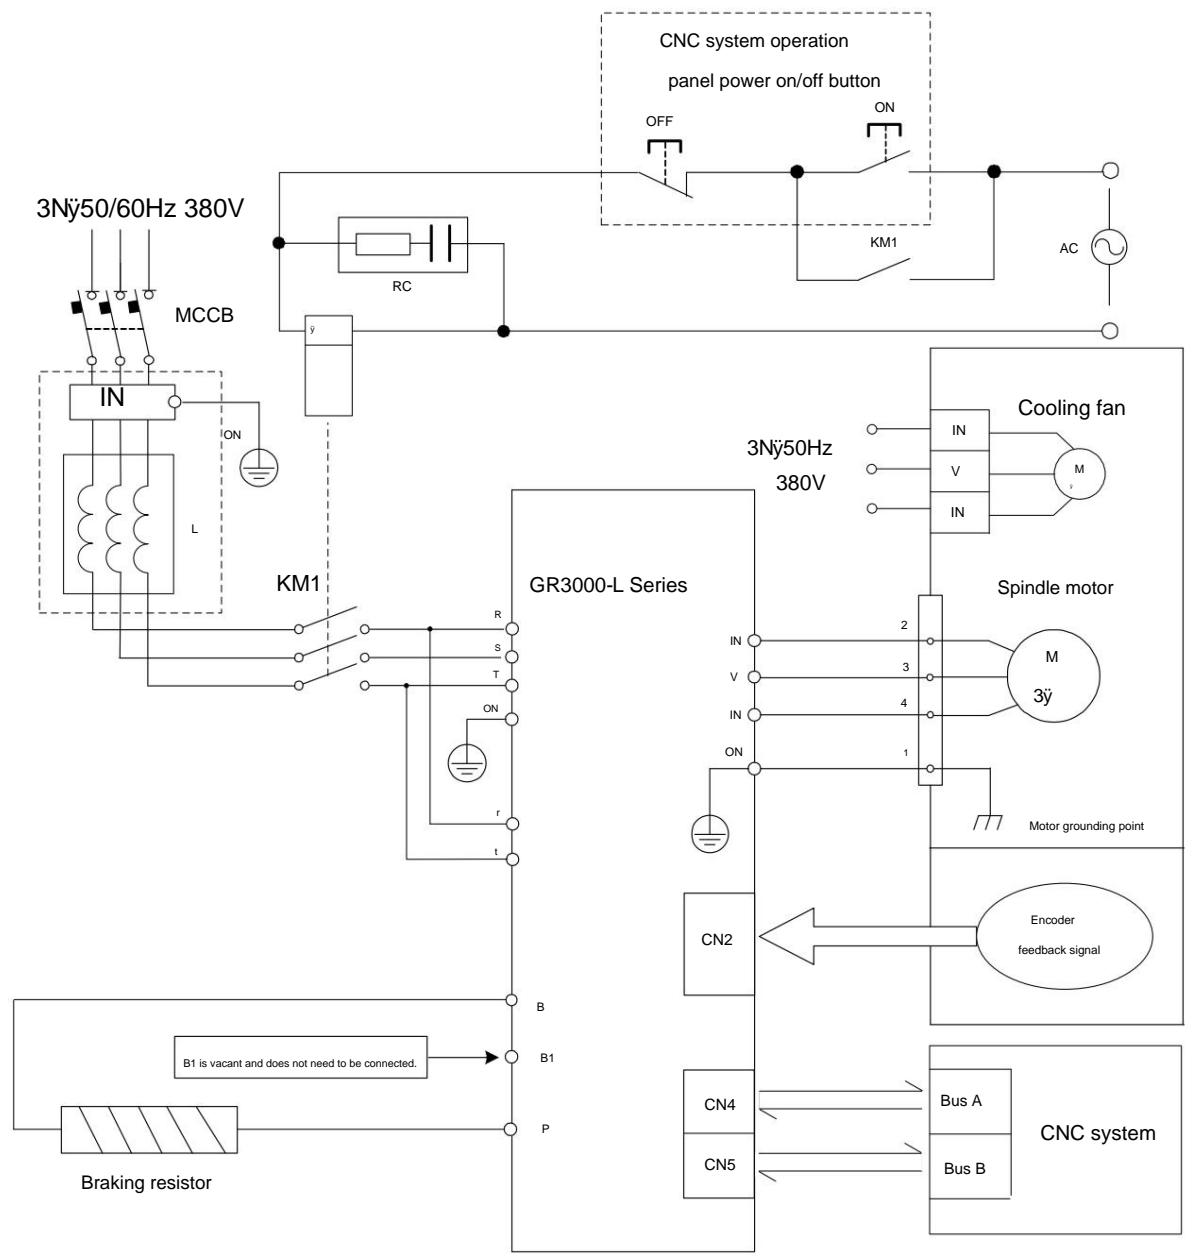

Figure 3-9 Main circuit wiring diagram of AC asynchronous spindle servo motor for GR3000-L series products
- If the user refers to Figure 3-9 for wiring, be sure to select the appropriate circuit breaker MCCB according to the description in <Appendix B>.
- Figure 3-9 is not applicable to GR3300-LA2 and GR3300-LS2.